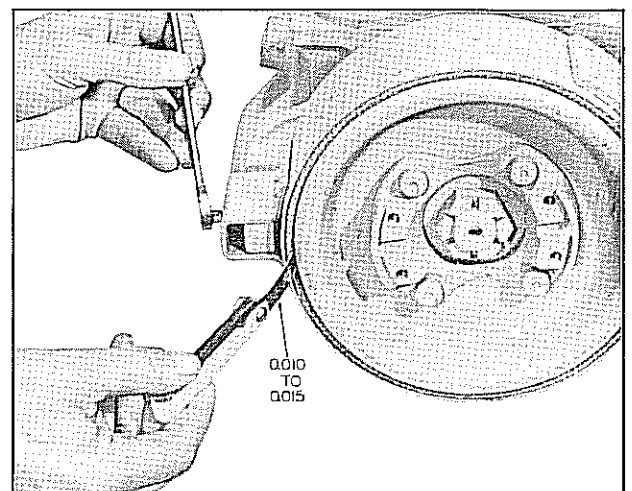

Figure 12. Brake Band Centering Adjustment
- b. Turn brake band anchor clip bolt until feeler gauge placed between lining and drum indicates a 0.010 to 0.015 inch clearance. See figure 12.